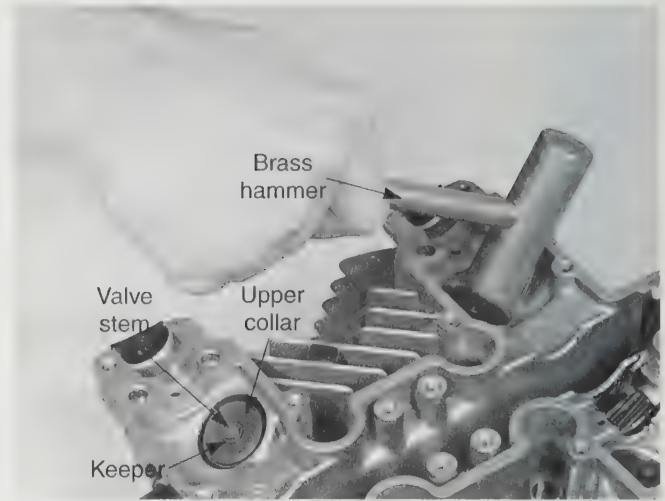

Figure 20-30. Using a soft faced hammer (plastic or brass), tap each valve stem to ensure firm seating of keepers in the upper collar.
6. To ensure the valve spring keepers are properly seated, lightly tap the end of the valve stem with a brass or plastic hammer, **Figure 20-30**.